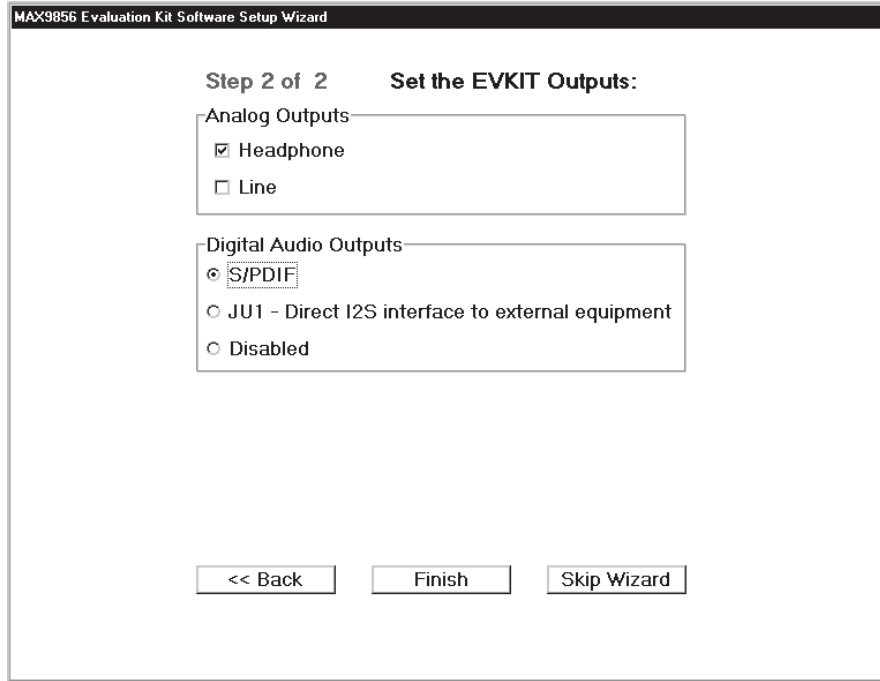

Figure 2. MAX9856 Evaluation Software (Setup Wizard Step 2 of 2)
- 13) Click the **Continue** button. The setup wizard **Step 2 of 2** window appears, as shown in Figure 2.